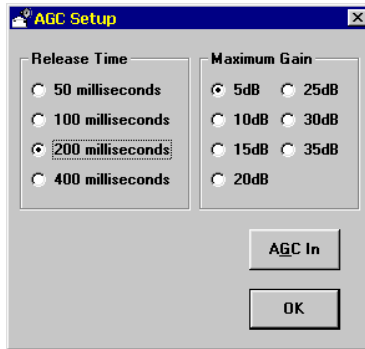

Figure 3-7 Tutorial AGC Setup Window
17. Click on the **AGC Setup** button in the Output Levels block. The following window (Figure 3-7) will appear:
Use the mouse to set the Release Time to 200 milliseconds and the Maximum Gain to 20dB, as shown in Figure 3-7. Click on **OK** when done.